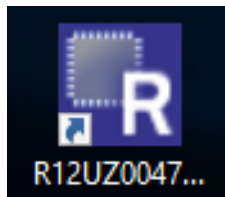

Figure 3. Desktop Icon
2. Click on the Renesas DAQ shortcut (created in Loading Software) on the desktop. Figure 3 shows the desktop icon. The green LED on the DAQ on a Stick board turns on.